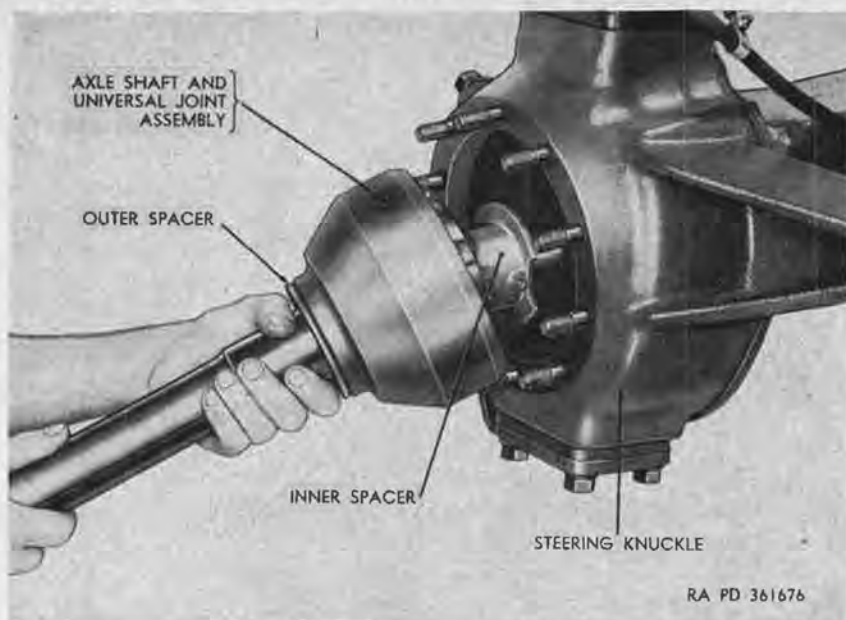

Figure 221. Removing axle shaft and universal joint assembly.
- (5) Pull axle shaft and universal joint assembly (fig. 221) from steering knuckle and axle housing.
- (1) Using care not to damage oil seal in housing outer end, insert axle shaft and universal joint assembly (fig. 221) into steering knuckle and axle housing, guiding splined end of inner shaft into splined differential side gear inside axle housing. Be sure inner and outer spacers (fig. 221) are in position on inner and outer shafts before proceeding to next step.